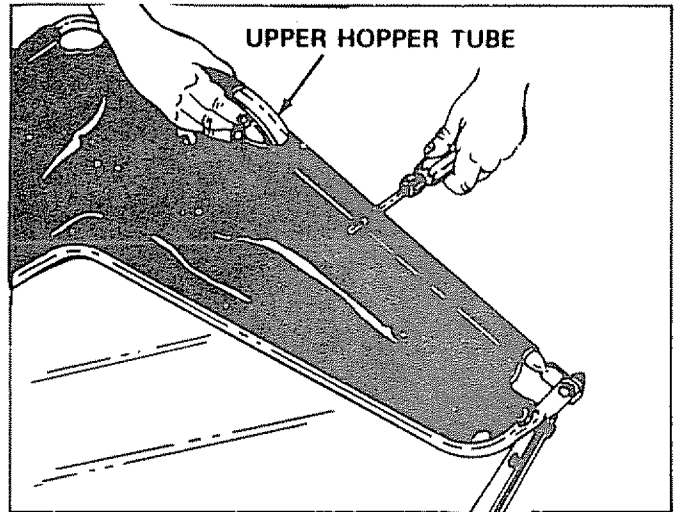

FIGURE 21
- Locate hole along side of upper hopper tubes and pierce a hole through the bag aligned with the hole in the tube. See figure 21.